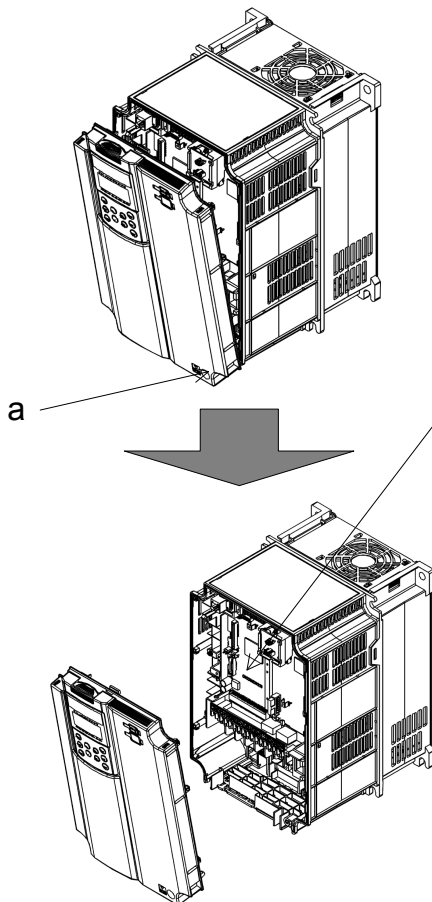

Figure 2.1-1 Removing the Front Cover
As shown in Figure 2.1-1, loosen the cover mounting screw on section "a" and pull out the upper end of the front cover towards you.
- (1) Set a attached spacer "b" onto location "a" of the option mount provided on the control PCB.
- (2) Mount the interface card so that connector CN1 on the card comes to be connected to connector C-port on the control PCB.
- (3) Secure the interface card with two attached screws "c."
- (4) Mount the front cover in the reverse order of removal, referring to Figure 2.1-1 or 2.1-2.